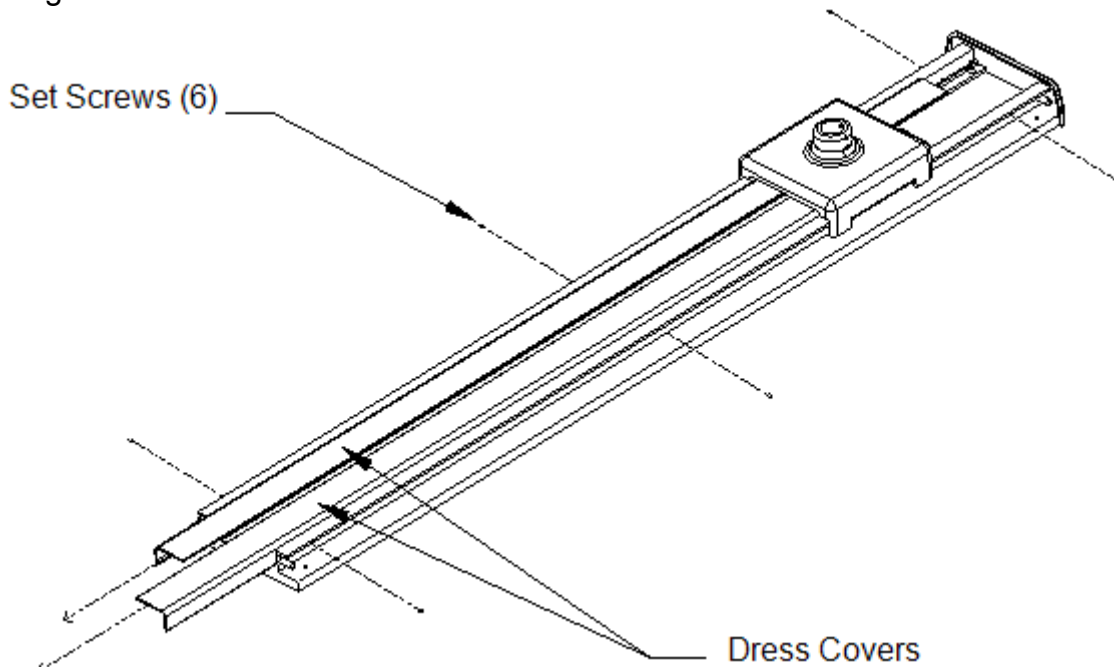

Figure 28. Dress Cover Removal
- Loosen the three #8 set screws along each side of the track channel extrusion P/N 1001500 with the provided hex Allen wrench. Remove both dress covers P/N 1001515. See Figure 28. Dress Cover Removal.